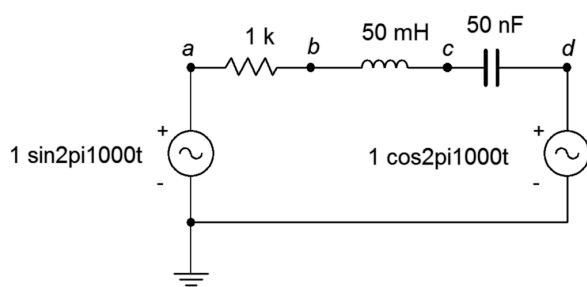

Figure 2.35
53. For the circuit of Figure 2.35, determine the voltages across each component.